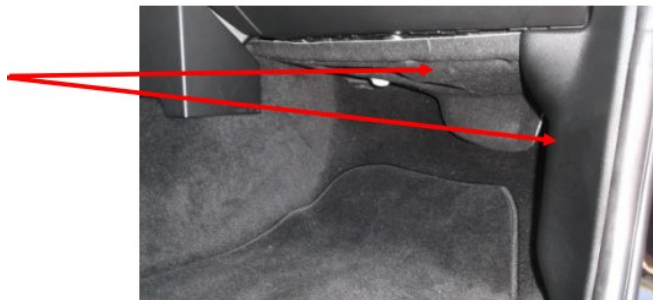

Figure 2
1. Remove the two trim pieces shown in Figure 2.